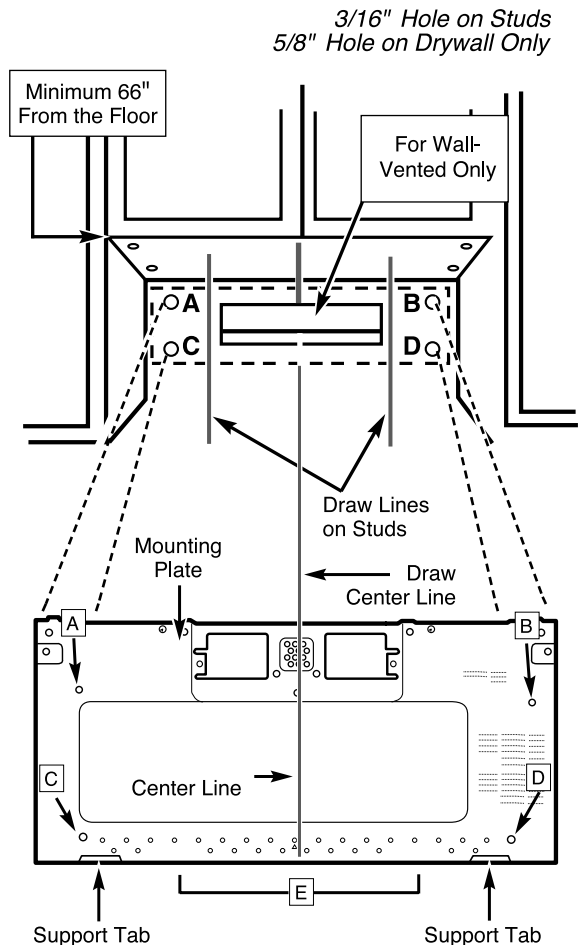
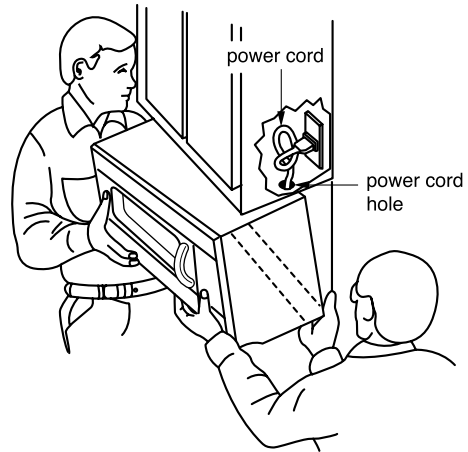

Figure 26
Figure 30
1. Carefully lift microwave oven and hang it on support tabs (See Figure 26) at the bottom of the mounting plate. Reaching through upper cabinet, thread power supply cord through the power supply cord hole in the bottom of the upper cabinet. See Figure 30.